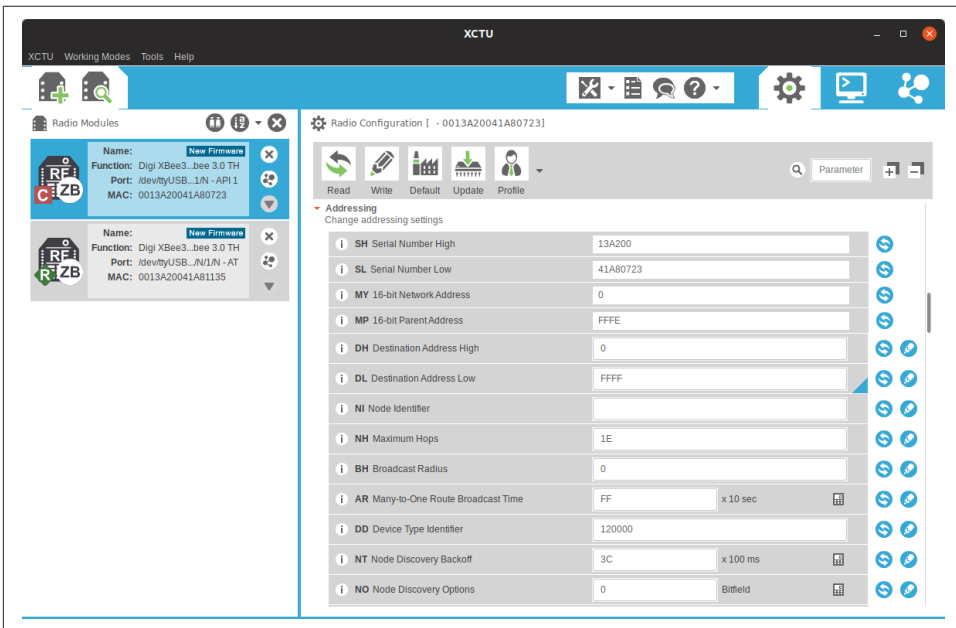

Figure 14-5. Looking up the high and low serial numbers in X-CTU
In your code, you must replace `0013A200` (DH) and `403B9E1E` (DL) with the high and low addresses of the destination radio. You can look up the high (ATDH) and low (ATDL) portions of the serial number using X-CTU, as shown in Figure 14-5. The numbers are also printed on the label underneath the XBee. For a Series 1 XBee use 0 for the DH, and for the DL use the MY address of the XBee you want to talk to.